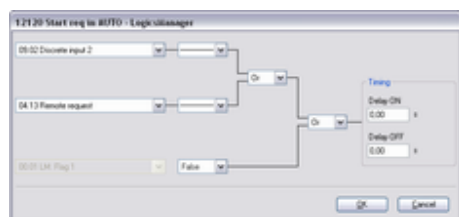

Fig. 204: LogicsManager function
2. ➤ Configure the LogicsManager 86.90 function [12120 Start req in AUTO] as shown in (Fig. 204) to start the generator in Automatic operating mode if discrete input [DI 02] ("09.02 Discrete input 2") is energized or a remote start request ("04.13 Remote request" = start via interface) is issued.